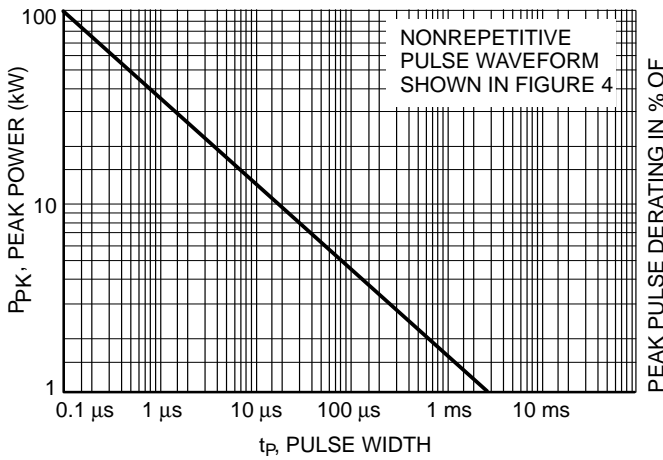
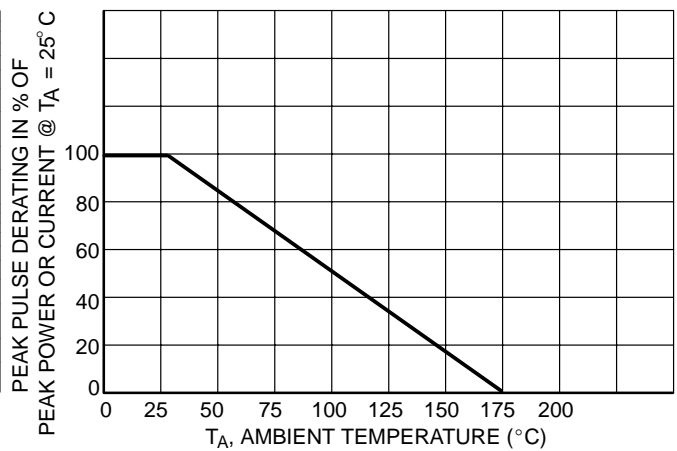
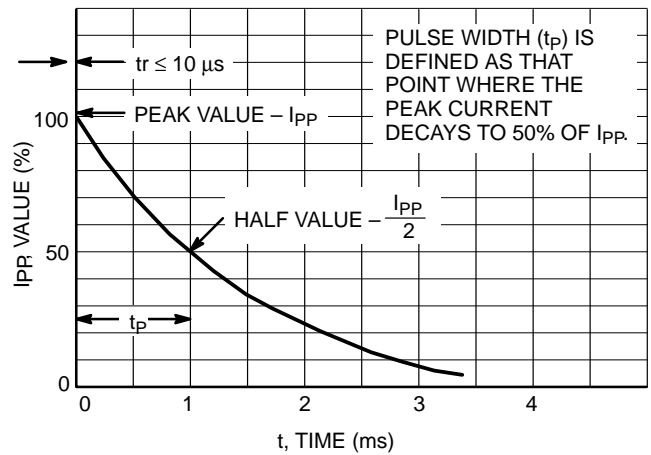
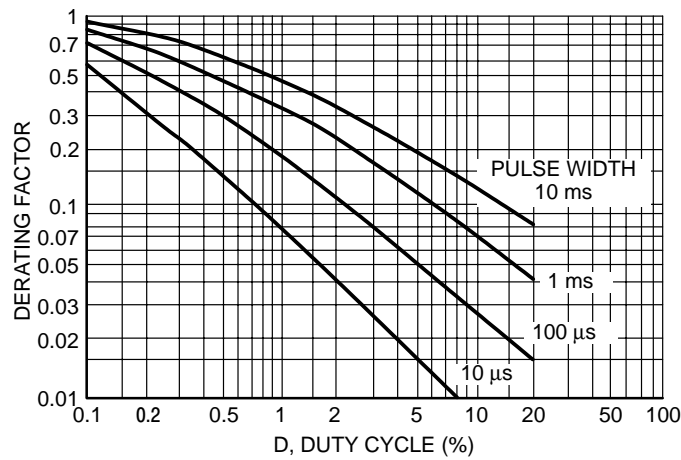

Figure 1. Pulse Rating Curve
Figure 2. Pulse Derating Curve
Figure 4. Pulse Waveform
Figure 6. Typical Derating Factor for Duty Cycle
1. Nonrepetitive current pulse per Figure 4 and derated above  $T_A = 25^\circ\text{C}$  per Figure 2.
3. Surge current waveform per Figure 4 and derate per Figures 1 and 2.
The data of Figure 1 applies for non-repetitive conditions and at a lead temperature of 25°C. If the duty cycle increases, the peak power must be reduced as indicated by the curves of Figure 6. Average power must be derated as the lead or ambient temperature rises above 25°C. The average power derating curve normally given on data sheets may be normalized and used for this purpose.
At first glance the derating curves of Figure 6 appear to be in error as the 10 ms pulse has a higher derating factor than the 10 μs pulse. However, when the derating factor for a given pulse of Figure 6 is multiplied by the peak power value of Figure 1 for the same pulse, the results follow the expected trend.